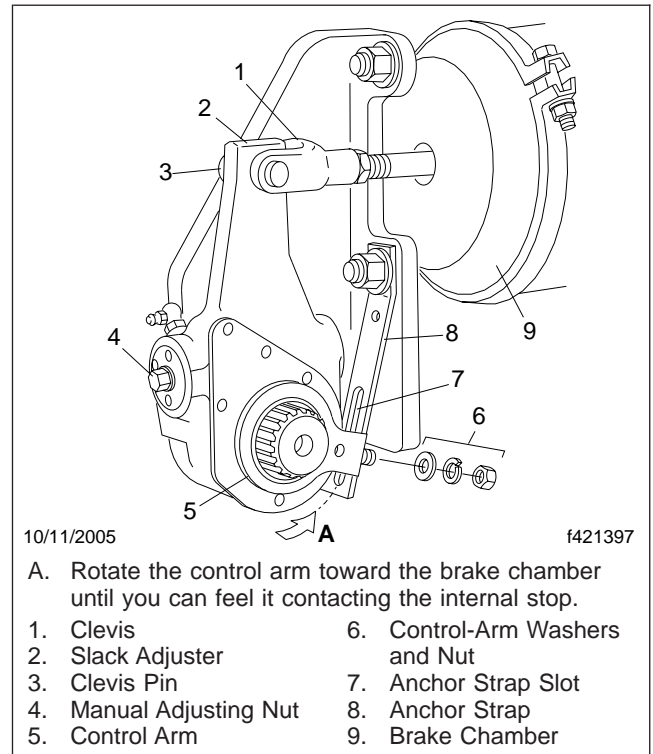

Fig. 11.12, Haldex Automatic Slack Adjuster
24.3 *Haldex Slack Adjusters:* Inspect each slack adjuster and anchor strap for damage. See **Fig. 11.12**. Have any damaged components replaced.